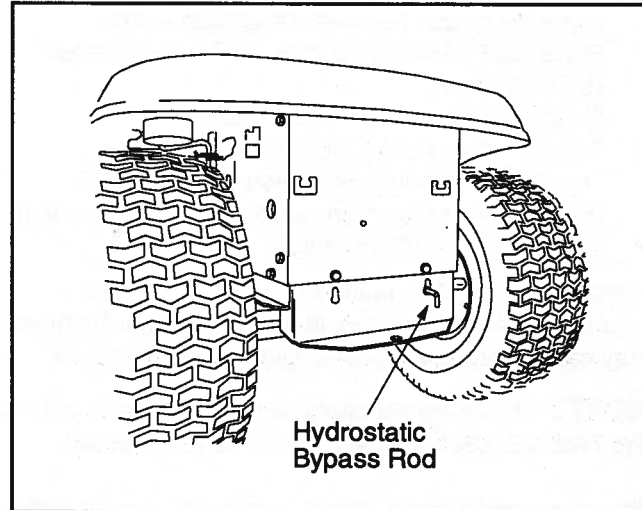

Figure 7
- Locate the hydrostatic bypass rod in the rear of the tractor. See Figure 7.